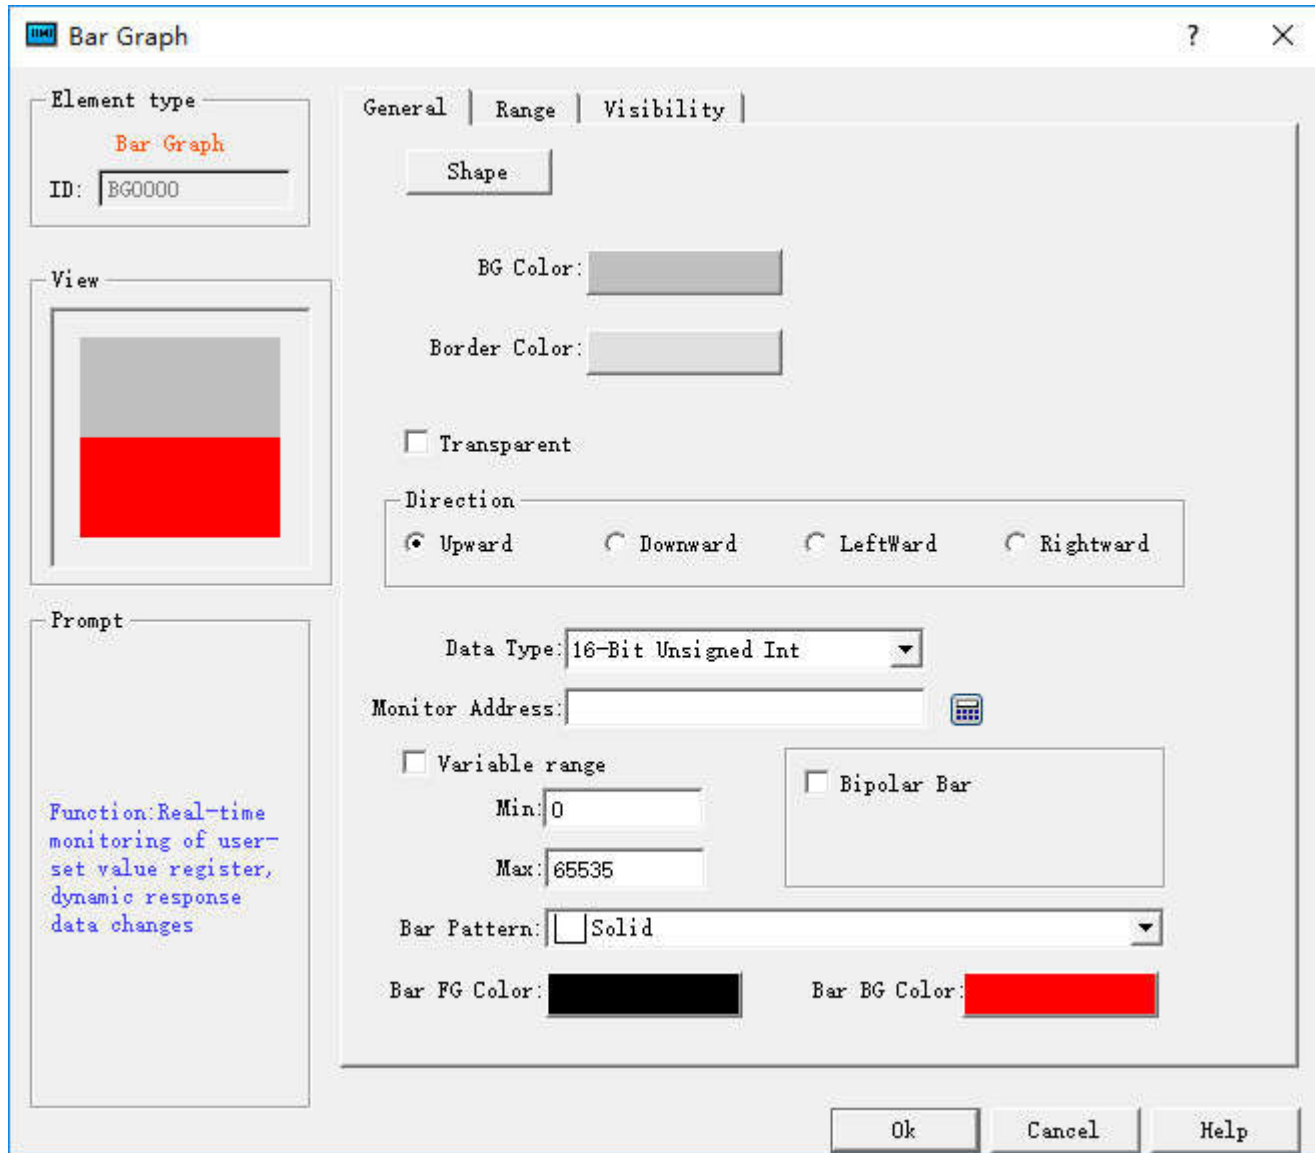

Figure 4-98 Bar chart dialog box
- Border Color: Set the border color of the bar. In Figure 4-98, the setting of border color is invalid; user can select the "shape" in another bar; the change is visible.